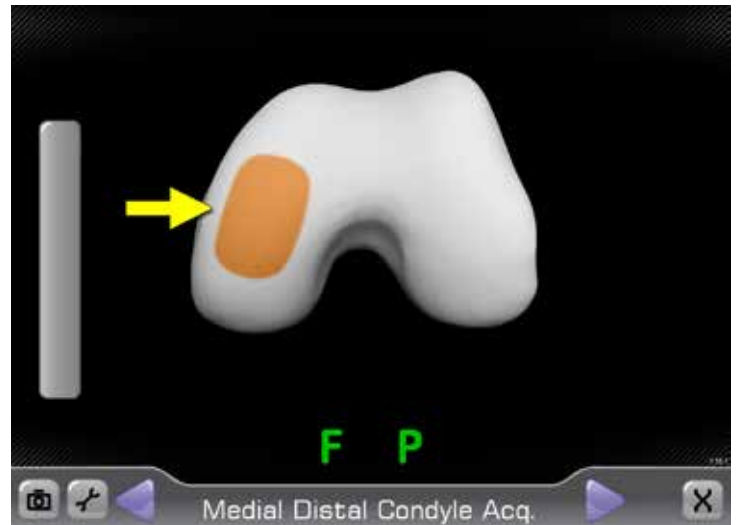

Figure 15
The *Medial Distal Condyle Acquisition* screen is displayed (Figure 15). Position the tip of the Probe Tracker (P) on the medial distal condyle and press the Forward button. Ensure the tip of the tracker maintains contact with the condyle and trace a patch that captures the most distal aspect of the condyle as well as the medial-lateral and anterior-posterior curve of the distal condyle.